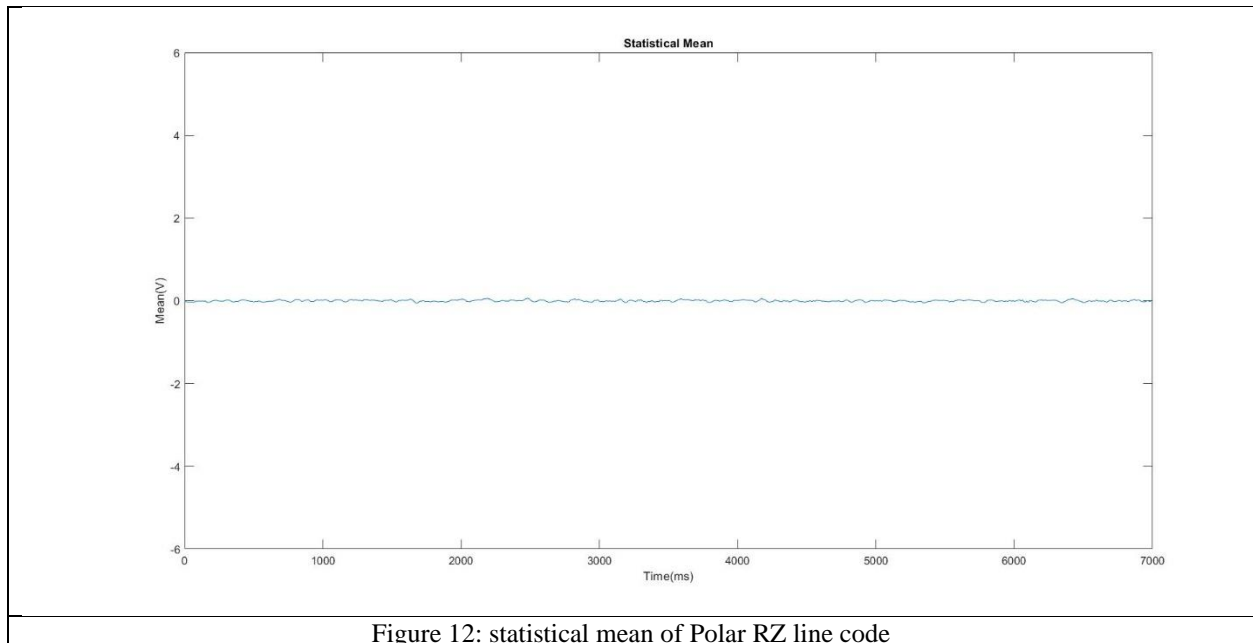

Figure 12: statistical mean of Polar RZ line code
From figure 12, we can observe that statistical mean is constant and approximately equal to 0.
1. Back to figure 12, we can find that the mean is constant over the time.